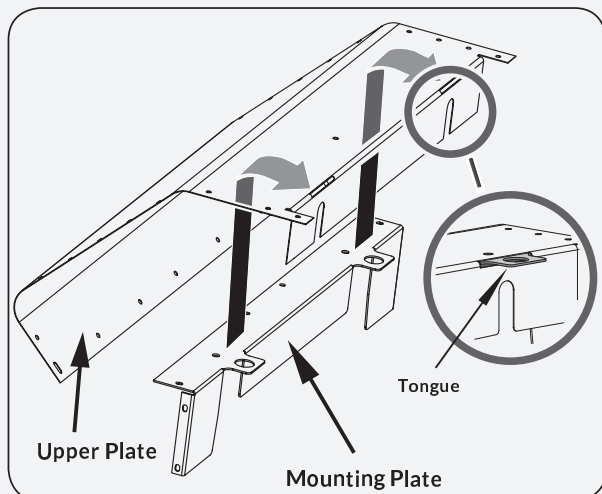

Figure 7a
1. Slip the mounting plate into the slots in the upper plate. (See **Figure 7a**)